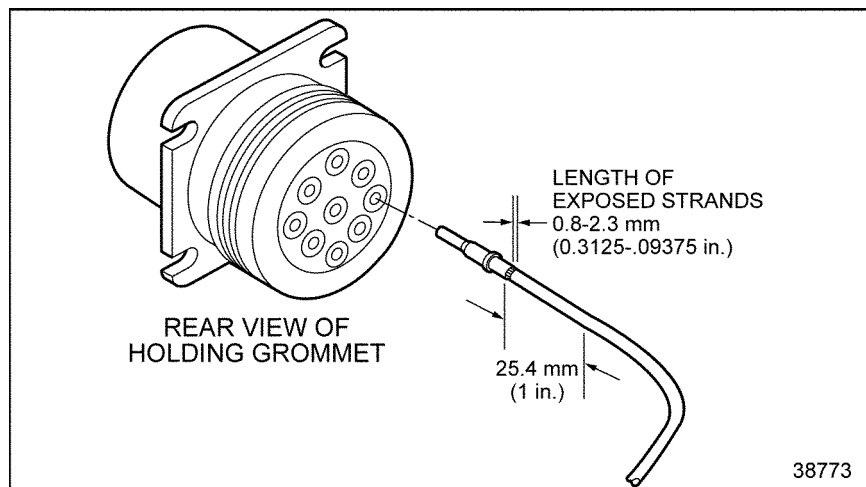
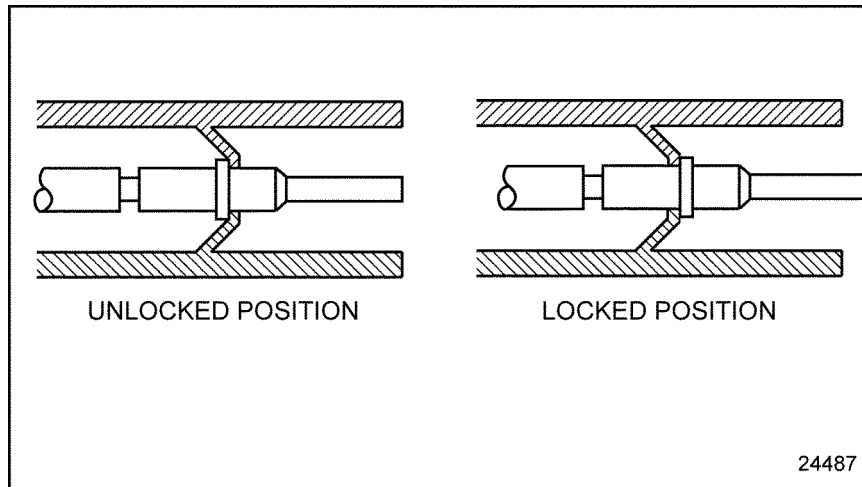

Figure 17-10 Pushing Contact Into Grommet
Figure 17-11 **Locking Terminal Into Connector**
5. Grasp the contact approximately one inch behind the contact crimp barrel. Hold the connector with the rear grommet facing you. See Figure 17-10.
6. Push the contact into the grommet until a positive stop is felt. See Figure 17-10. A slight tug will confirm that it is properly locked into place. See Figure 17-11.